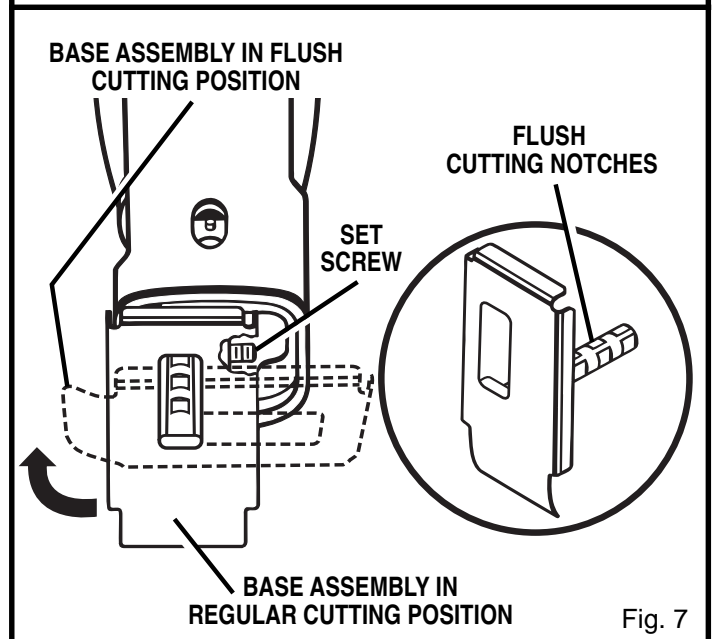

Fig. 7
- Loosen set screw and turn base assembly clockwise 90°. See Figure 7.